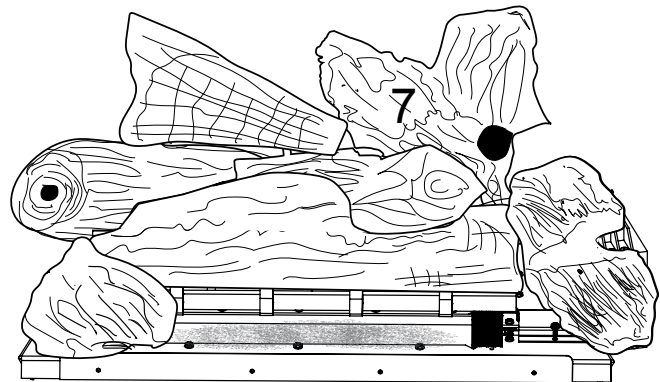

Figure 5.17 - Log #7 Placement
8. Hold log #7 with the flat end toward the back. Place log #7 by resting it behind log #2 and in front of the rear bend on the back, rotate clockwise to contact the back surface of log #7 to the metal bent upward on the burner assembly. The branch on log #7 should rest on log #5. See Figure 5.17.